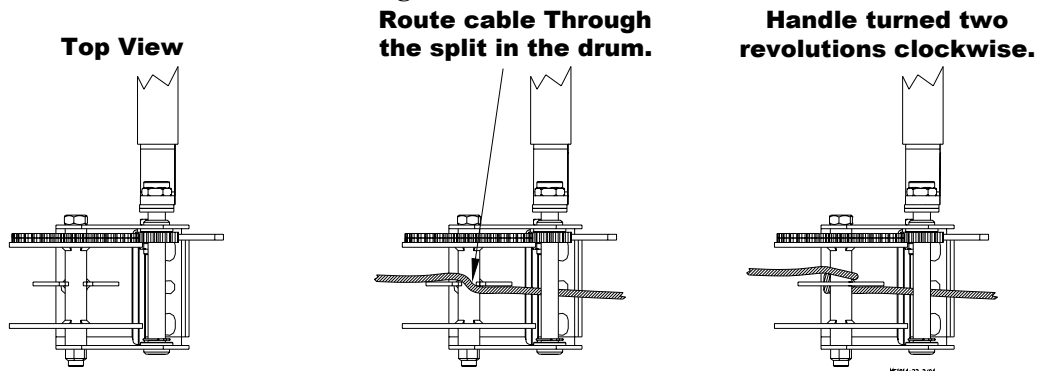

Figure 39. Winch cable wrap
- Lay the cable through the split in the winch drum. Turn the winch handle clockwise two revolutions to wind some cable onto the winch drum, see figure 39.